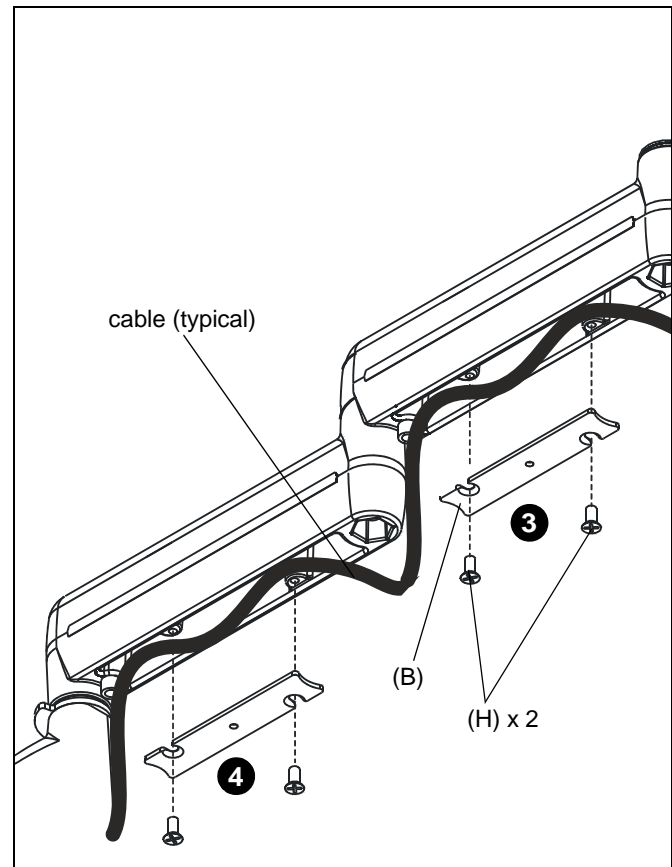

Figure 5
2. Carefully insert cables in cavity located in upper portion of static mount arm. (See Figure 5)
3. Using Phillips screwdriver, install cable management cover (B) with two #8-32 x 3/8" screws (H).